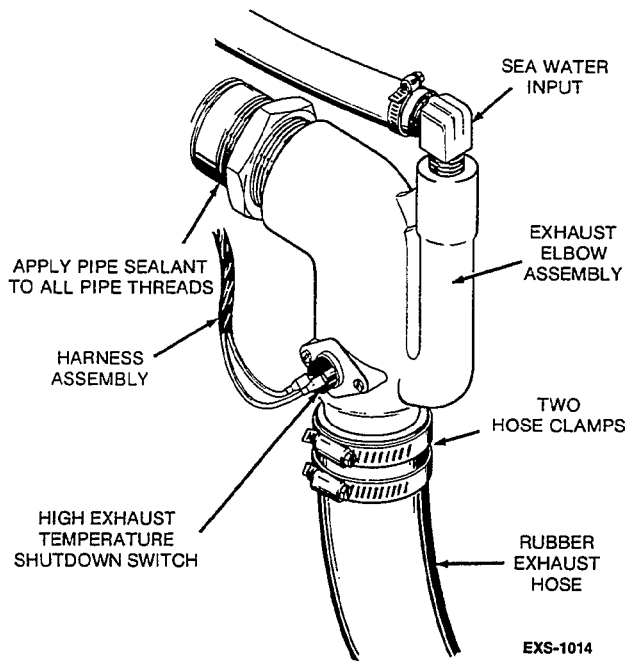
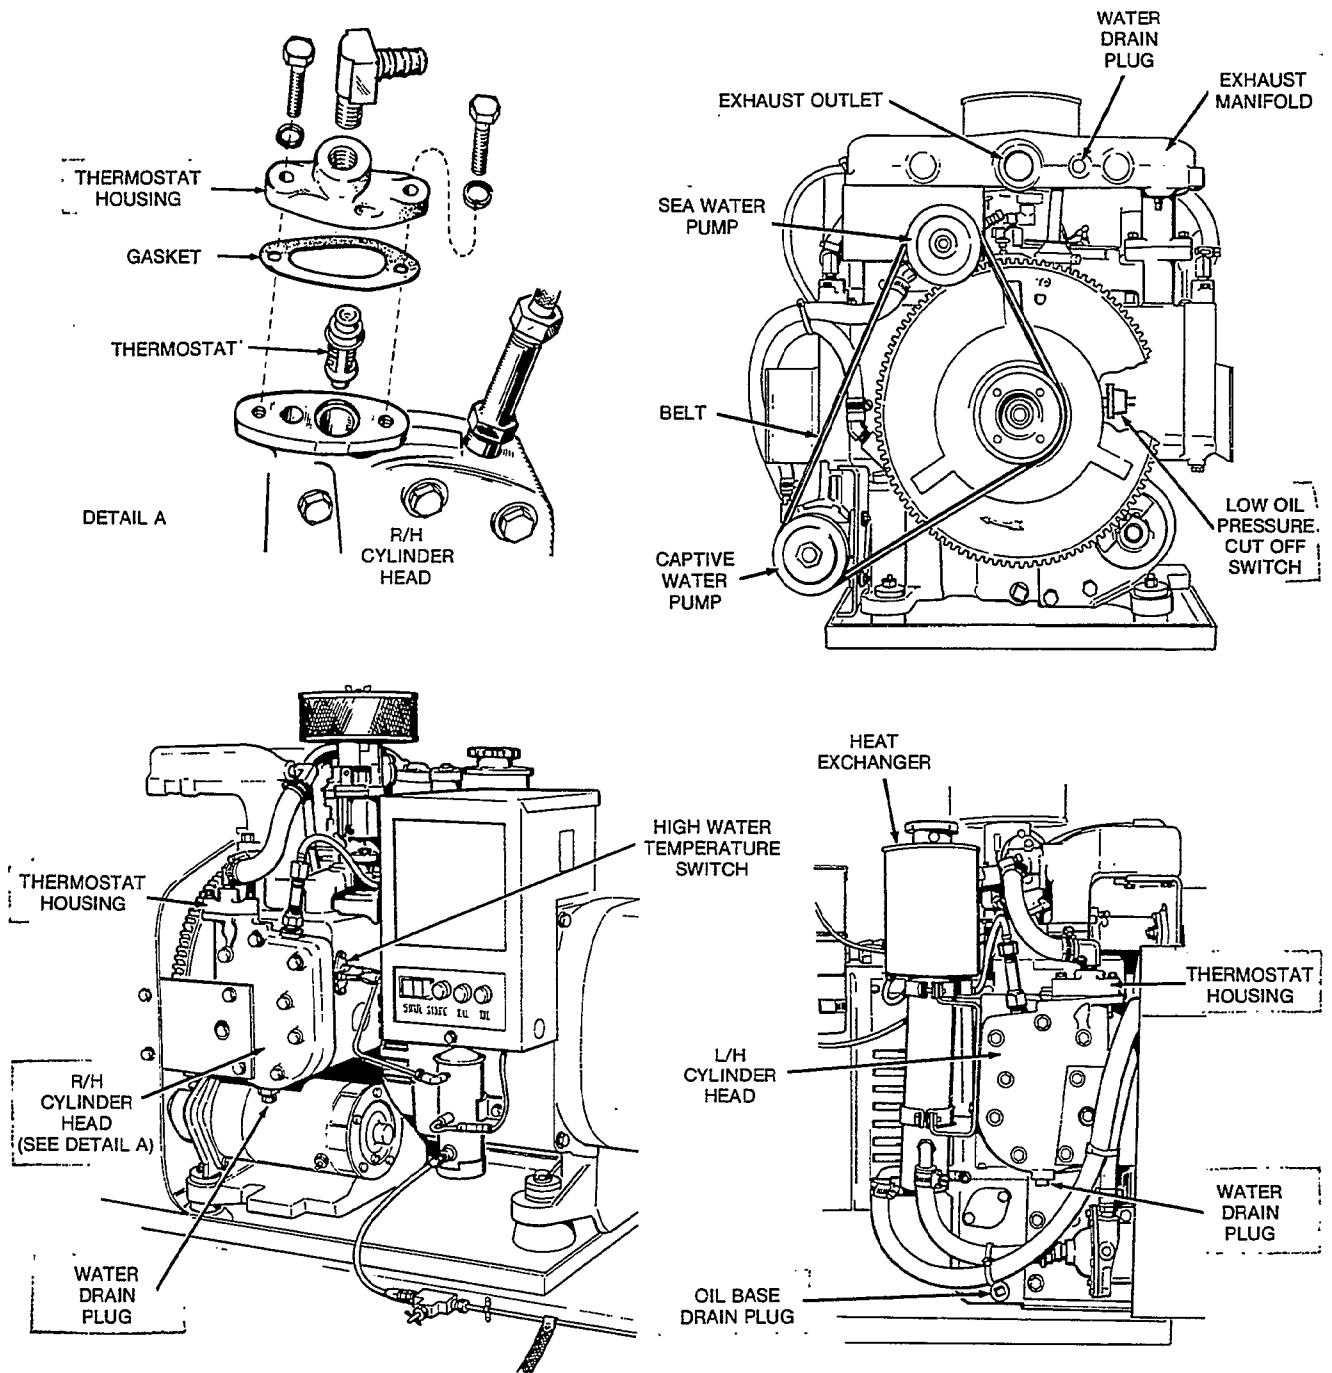

FIGURE 8. SEA WATER CONNECTIONS
FIGURE 12. COOLING SYSTEM COMPONENT DETAILS
To prevent vibration from transmitting to the hull, use automotive type tail pipe hangers. Most installations today use flexible rubber hose for the water cooled section of the exhaust line for ease of installation and flexibility. Be sure the rubber hose is designed and approved for marine exhaust line use. Provide adequate support for rubber hose to prevent sagging, bending and formation of water pockets. Use two hose clamps having a minimum width of 1/2 inch (12.7 mm) at each end of hose. See Figure 8.
A high exhaust temperature shutdown switch should be used on all installations. The switch mounts on a raised boss on the exhaust elbow (Figure 8), and stops the generator set if the exhaust system overheats. The switch is wired in series with the high water temperature shutdown switch on the engine block (Figure 12).
recommends the use of clean ethylene glycol antifreeze solutions in closed cooling systems during normal operation and storage periods. If freezing hazards exist, an antifreeze solution strong enough to prevent freezing must be used. Test antifreeze solutions periodically following antifreeze manufacturer's recommendations. The engine block has drain plugs for changing coolant as shown in Figure 12. Sea water can be drained from the heat exchanger by removing the hose from the sea water outlet fitting.
**CAUTION** Do not use existing neoprene impeller sea water pump for captive water side of cooling system. Heat, or soluble oil in many rust inhibitors and antifreezes, will damage the impeller. Always connect the neoprene impeller pump to the sea water side. Use a centrifugal metal impeller water pump (Onan No. 132-0110 or equal) in the captive water side. Drive it with a belt from the set power take-off as shown in Figure 12.
Refer to Figure 12 for the location of all drain plugs which should be removed to flush the cooling system.
**Thermostats:** Thermostats are located on the top of each cylinder head. These thermostats are connected by tubing to the water-cooled manifold. Replace all thermostats that are damaged from corrosion or other causes. See Figure 12.